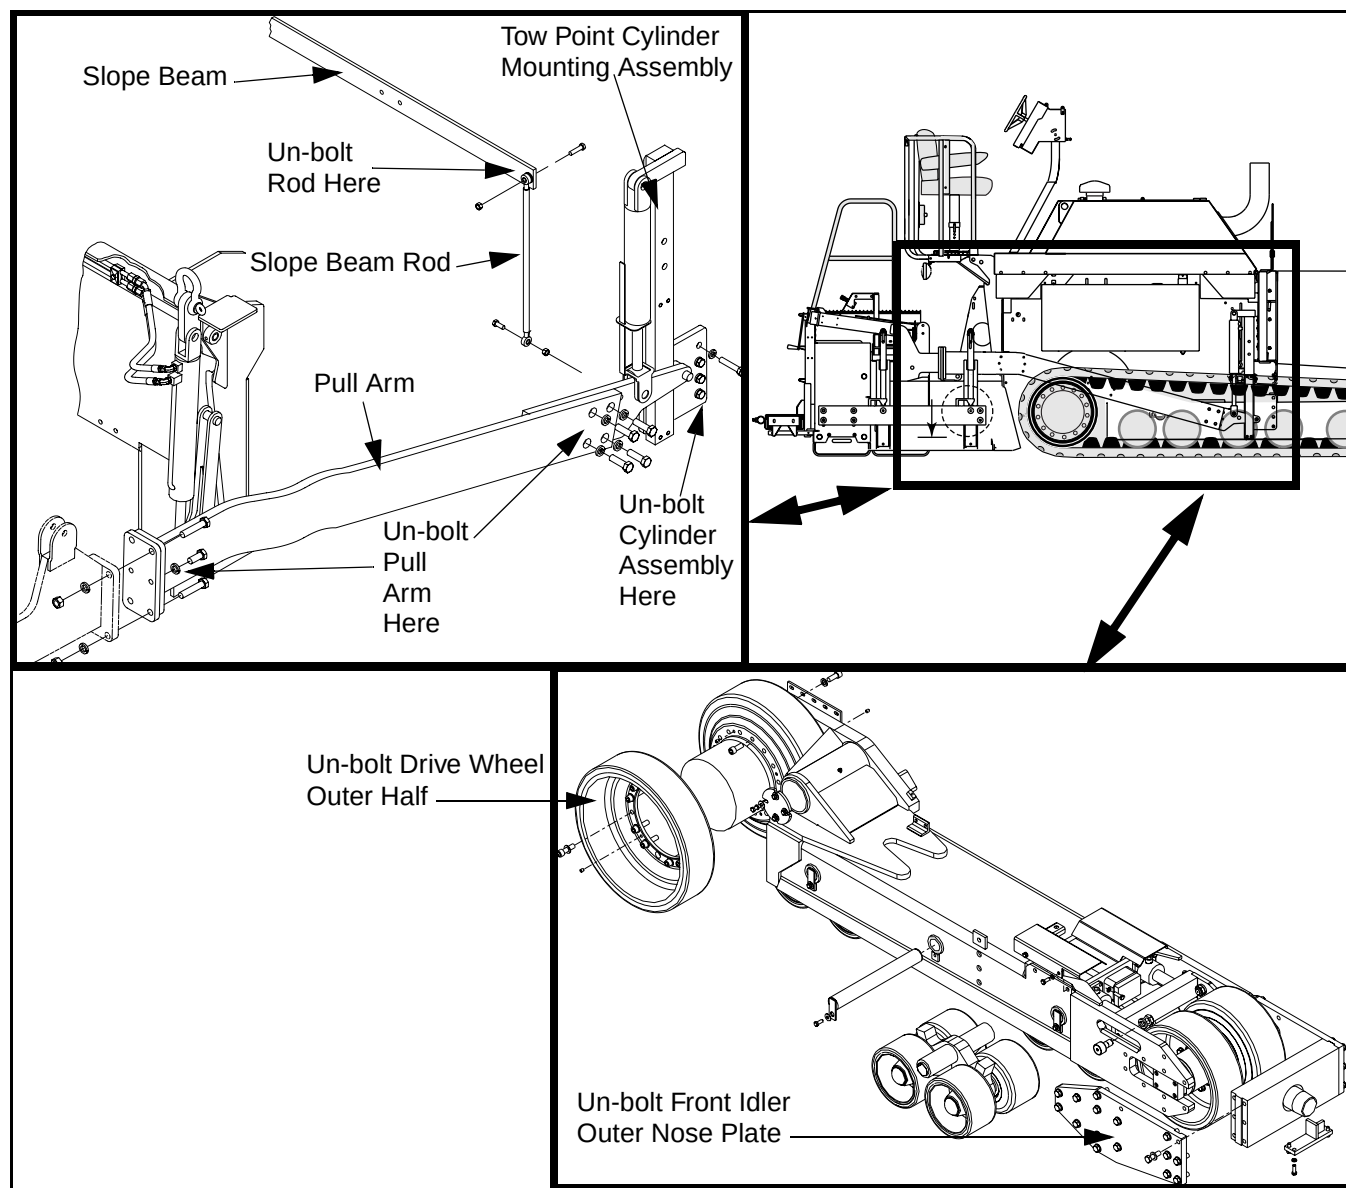

Figure 6 - 72 Rubber Track Removal
- 8) Insert an allen wrench into the adjusting screw on tension release valve cartridge (Figure 6 - 70). Slowly turn it clockwise until the valve seats.